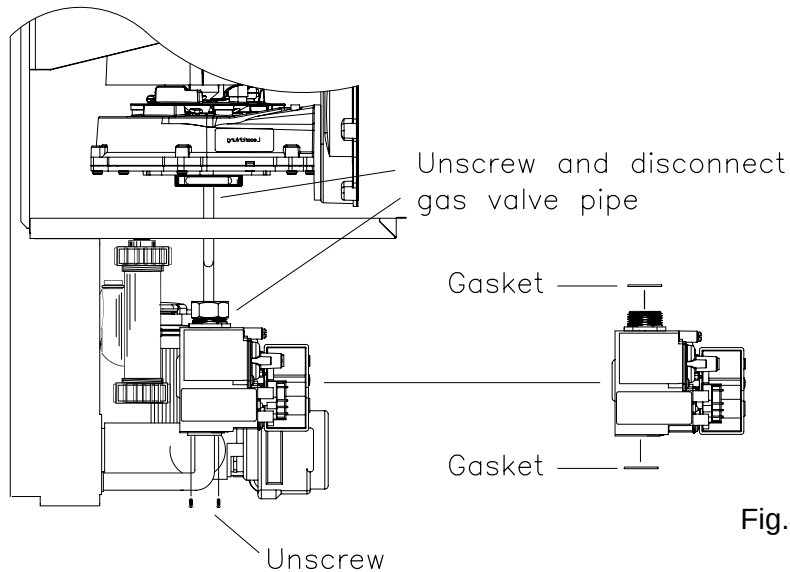

Fig.46
## 8.7 TO REMOVE/REPLACE GAS VALVE . (Fig.46).
8.7.3 Unscrew and disconnect gas valve pipe (Fig. 46).